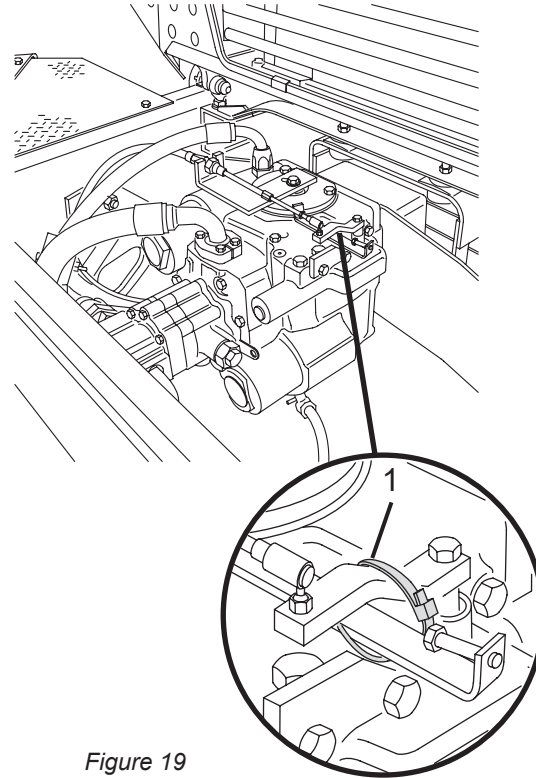

Figure 19
1. Remove the cable tie (Figure 19, Item 1) securing the hydraulic pump linkage in the TRANSPORT mode. The TRANSPORT mode constantly rotates the drum in the CHARGE direction at a speed of 1 to 1-1/2 RPM. This prevents the drum rollers from becoming damaged during transport.